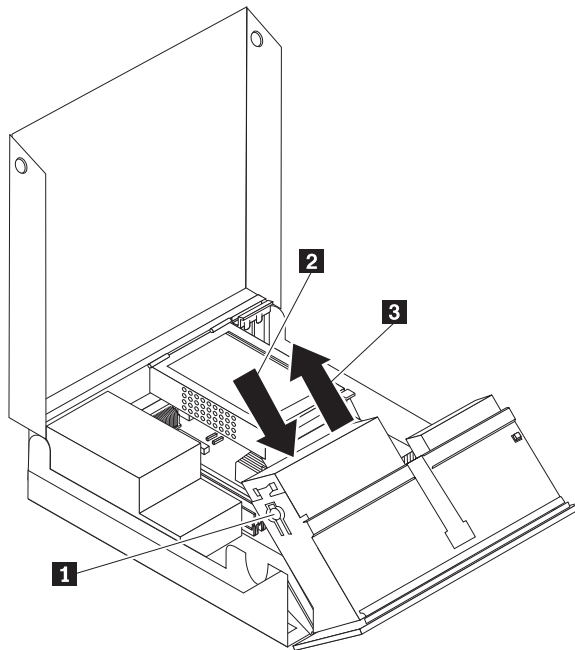

Figure 26. Removing the optical drive
- Slide the optical drive up **3** out the drive bay assembly. See Figure 26.